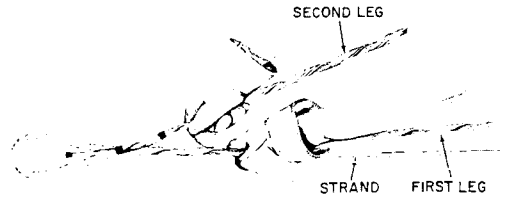

Fig. 9—Applying Second Leg
- (5) Start the second leg in the open space of the first leg by matching the painted crossover marks and then wrap the leg around the strand. (See Fig. 9.)